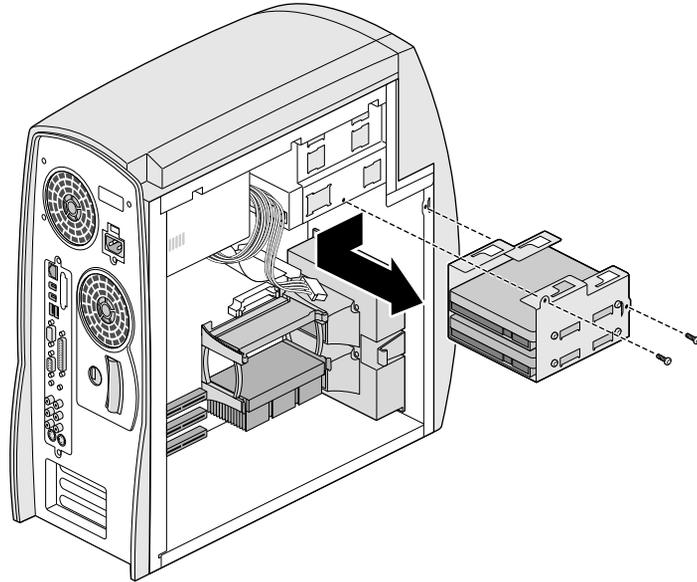

Figure 4-16 Removing the Internal Hard Drive Bracket
5. Remove the drive bracket from the system, as shown in Figure 4-16.